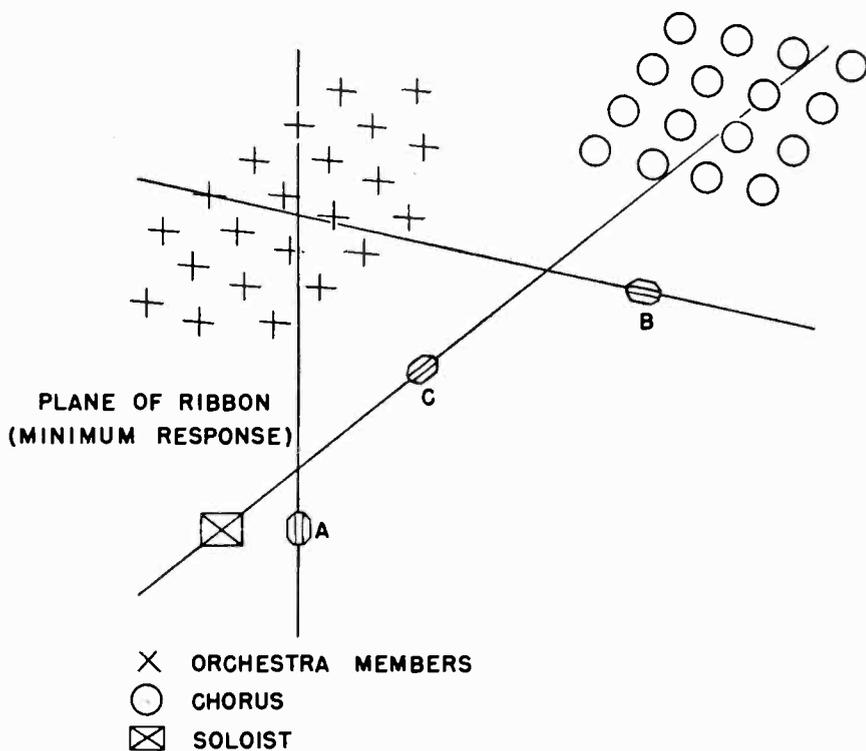
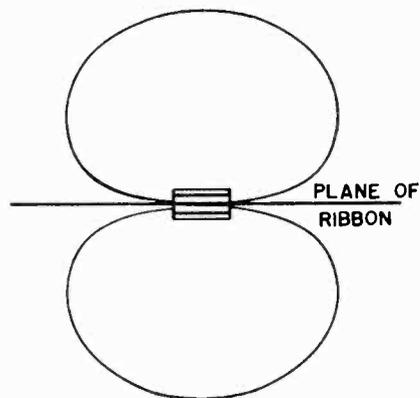

Fig. 3 Possible placement of microphones for chorus, singer, and orchestra to reduce pick-up of any section on other microphones.
Fig. 4 Directivity curves for velocity or ribbon microphones.
Velocity, or ribbon microphones. These have excellent frequency response, in the better grades, and have directional characteristics which makes them advantageous when simultaneous use is made of several microphones. One such arrangement is shown in Fig. 3, where A represents a microphone for the solo singer, B is a microphone for the chorus, and C is a pick-up for the orchestra. The ribbon microphone has a pattern as shown in Fig. 4, which indicates that there is very little pick-up from the
Fig. 4. Additional patterns obtained when calibrating oscillator. (A) represents 5:2 frequency ratio. (B) is the single sine wave obtained when linear sweep frequency is the same as the signal applied to the vertical plates. (C) shows two full sine waves obtained when linear sweep is one-half of the frequency of the applied signal.